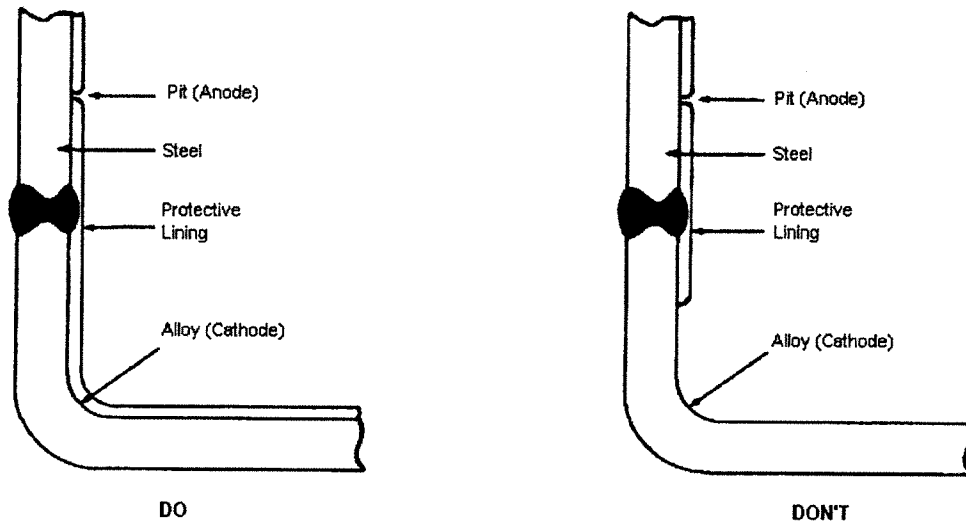

FIGURE A8
3.4.4 Dissimilar metals shall be electrically isolated from the steel tank or vessel surface whenever possible. Where dissimilar metals are used, selection shall be such that the galvanic effect is minimized. Other corrosion mitigation methods may be required (see Figure A8, Appendix A).